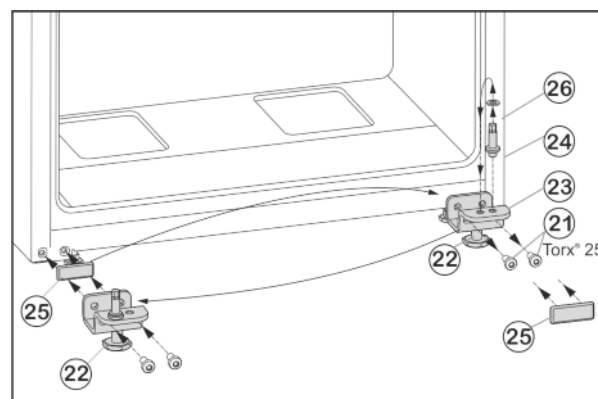

Fig. 7
- Unscrew fastening screws Fig. 7 (21) .
- Remove the lower bearing block Fig. 7 (23), complete with bearing bolt Fig. 7 (24), washer Fig. 7 (26) and adjustable foot Fig. 7 (22).
- Unscrew the bearing bolt Fig. 7 (24), complete with washer Fig. 7 (26), re-locate it into the mounting hole on the opposite side of the bearing block and tighten again.
- Carefully remove the cover plate Fig. 7 (25) and re-locate it to the other side.
- Fasten the lower bearing block Fig. 7 (23), complete with bearing bolt Fig. 7 (24), washer Fig. 7 (26) and adjustable foot Fig. 7 (22) to the new hinge side, with the help of a cordless screwdriver if necessary, and **tighten (with 4 Nm)** once again.
- Lower the bottom door onto the bearing bolt Fig. 7 (24).
- Unscrew the adjustable foot *Fig. 7 (22)* on the lower bearing block *Fig. 7 (23)* until it reaches the floor.